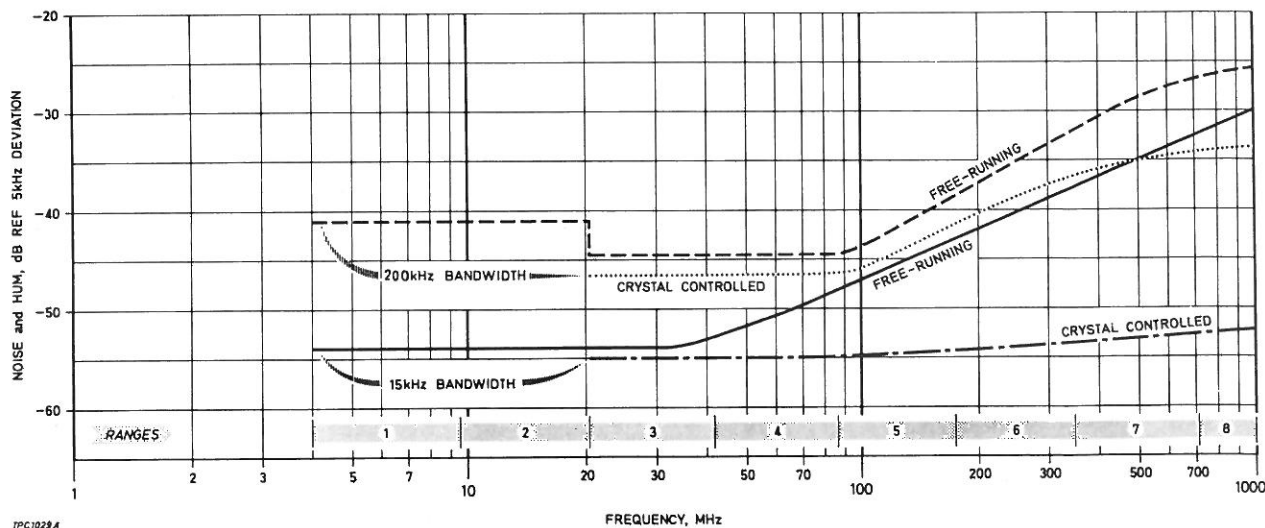

Fig. 2.4 Typical modulation meter noise levels
- (4) The curves given in Fig. 2.4 show typical noise levels produced by free-running and crystal controlled oscillators over the r.f. range of the instrument. In the 15 kHz bandwidth, below 70 to 100 MHz, there is insignificant difference in respective noise levels. Above 100 MHz, however, the noise level free-running increases progressively with frequency, whereas under crystal control the level remains nearly constant. The necessity to use crystal control depends on the noise level of the equipment under test and, as shown by the curves, the band-